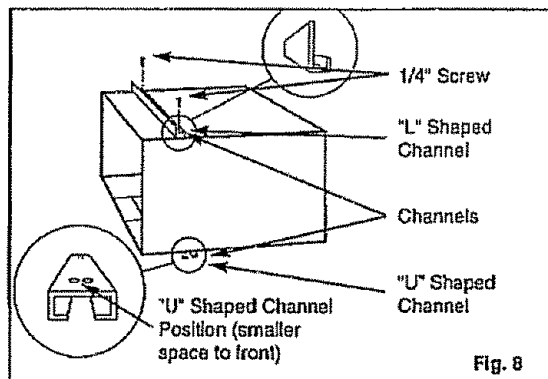

Fig. 8
- **"L" Shaped Top Channel:** Install the "L" shaped channel to the top of the cabinet as shown in Fig. 8 using four (4) 1/4" screws.
- **"U" Shaped Bottom Channel:** Install the "U" shaped channel to the bottom of the cabinet as shown in Fig. 8 using four (4) 1/4" screws.